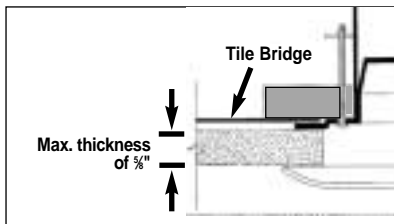

FIG. 3
**Figure 3:** Enclosure installation from above ceiling using the bridge (new construction). Rotating clamps are used to pre-mount tile bridge to enclosure, allowing system to be positioned in ceiling before tiles are set. Please note maximum ceiling thickness in this application is 5/8” to allow grille studs to mount into enclosure.